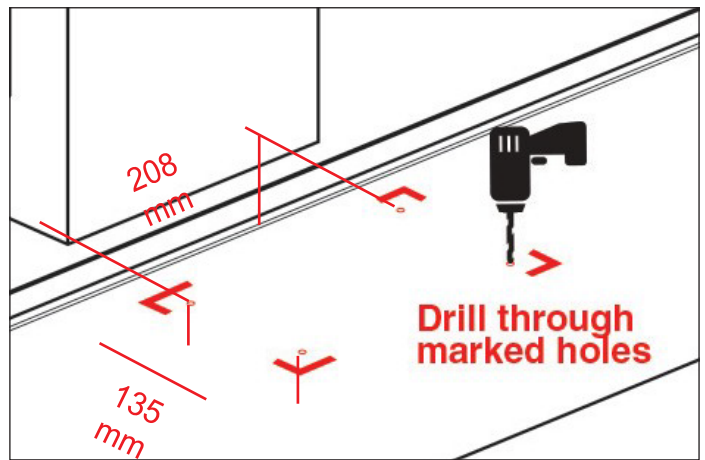

Fig 14
- Using a M12 masonry drill bit, drill holes to a minimum depth of 120mm (Fig 14).